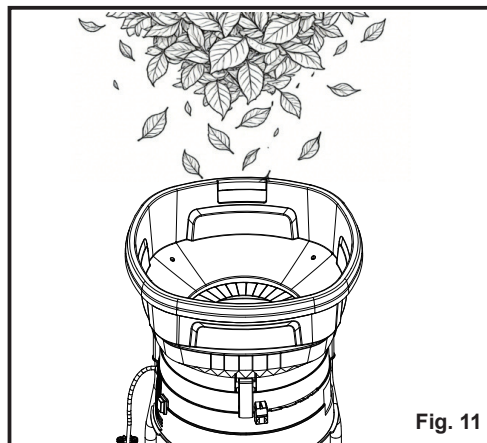

Fig. 11
- With the device running, feed double handfuls of dry leaves or single handfuls of wet leaves into the hopper (Fig. 11).